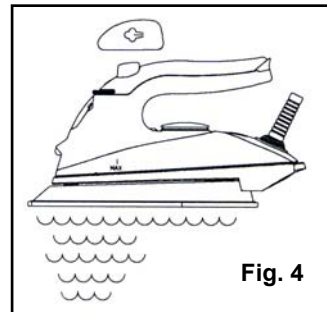

Fig. 4
3. With the iron in a horizontal position, press the blast of steam button several times to prime the pump. See Figure 4.